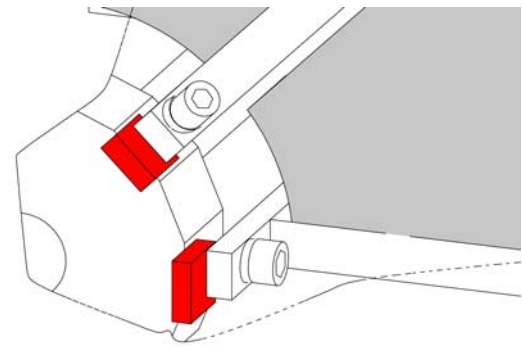

Figure 10
- **The supplied spacer discs definitely have to be placed as assembly aids between the segment foot and the rotor hub (to install the last segment) (Figure 10).**